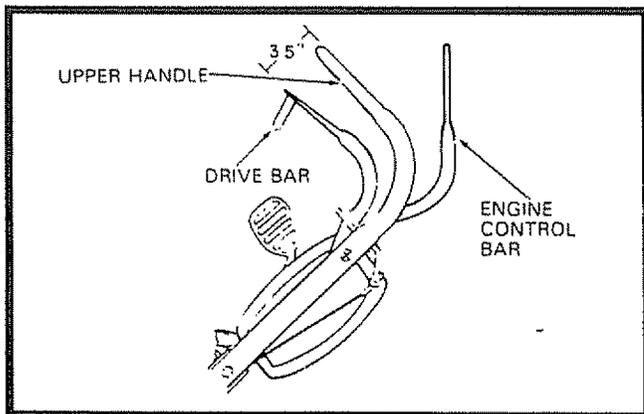

FIG. 21
- When Rear Wheels stop turning, hold the Drive Bar and check the dimension as shown in fig. 21.
- The Drive Control is properly adjusted when the measurement over the Handle and Drive Bar is approximately 3 1/2" (See Fig. 21). If the measurement is less than 3 1/2" adjust Drive Control Cable.